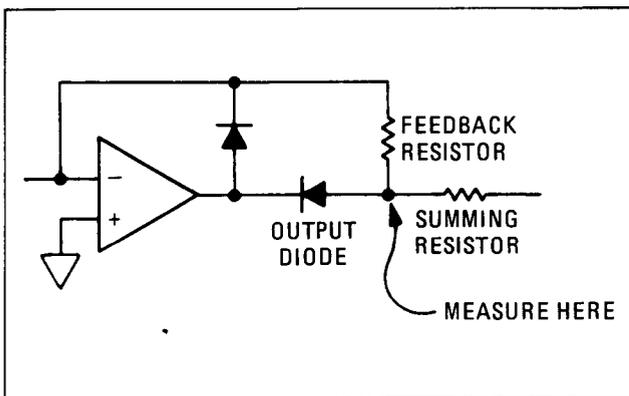

Figure 8-6. P/O Shaper Amplifier
7. Set the RANGE switch to 100 mW. With +3.000V at A2TP1, measure the voltage at the point indicated in Figure 8-6 for each of the individual shapers in the 100 mW SHAPER circuit. The output voltages should be as indicated in Table 8-2. If any of the output voltages are not as indicated in Table 8-2, troubleshoot that individual shaper. If all voltages are as indicated in the table, there appears to be no problem with the 100 mW SHAPER circuit. Return to step 1 to continue troubleshooting.
10. Measure the voltage at the point indicated in Figure 8-6 for each of the individual shapers in the 10 mW SHAPER circuit. The output voltages should be as indicated in Table 8-3. If any of the output voltages are not as indicated in Table 8-3, troubleshoot that individual shaper. If all voltages are as indicated in the table, there appears to be no problem with the 10 mW SHAPER circuit. Return to step 1 to continue troubleshooting.